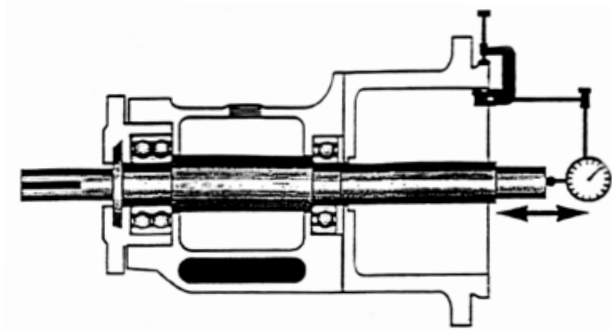

Figure 44 - Checking for shaft end-play
3. Check end play (thrust) - maximum of 0.005" (0.13mm) (Figure 44).